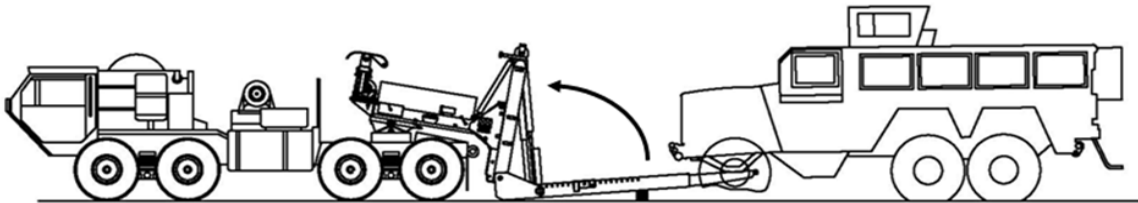

Figure 6 – Disabled vehicle pre-picked
7. Using the remote control, **BOOM RETRACT** to lower the front of the booms and raise the rear of the booms. Be sure that all blocks stay in place. Raise the vehicle until the suspension/lift point is approximately 7-8 inches above the ground. (figure 6)